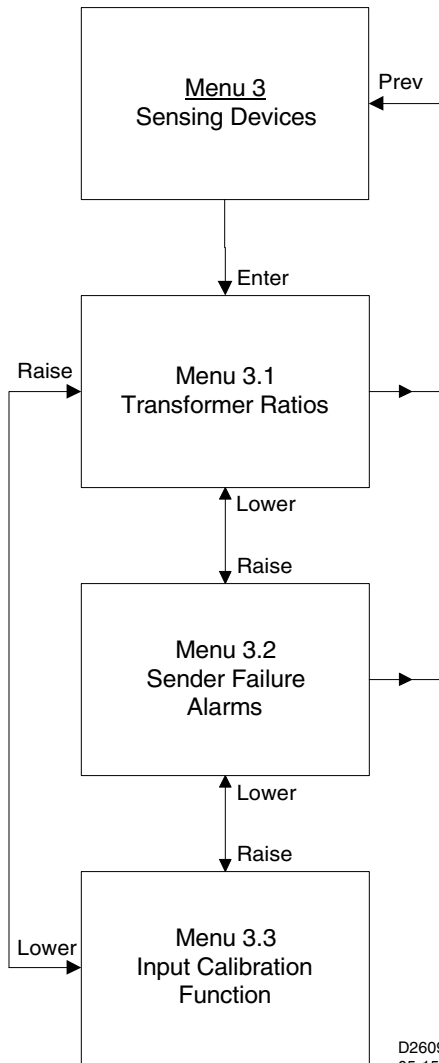

Figure 3-7. Menu 3
**Menu 3.** Menu 3 sensing devices. Pressing **Select/Enter** (Figure 3-7) begins the 3.1 level of menus